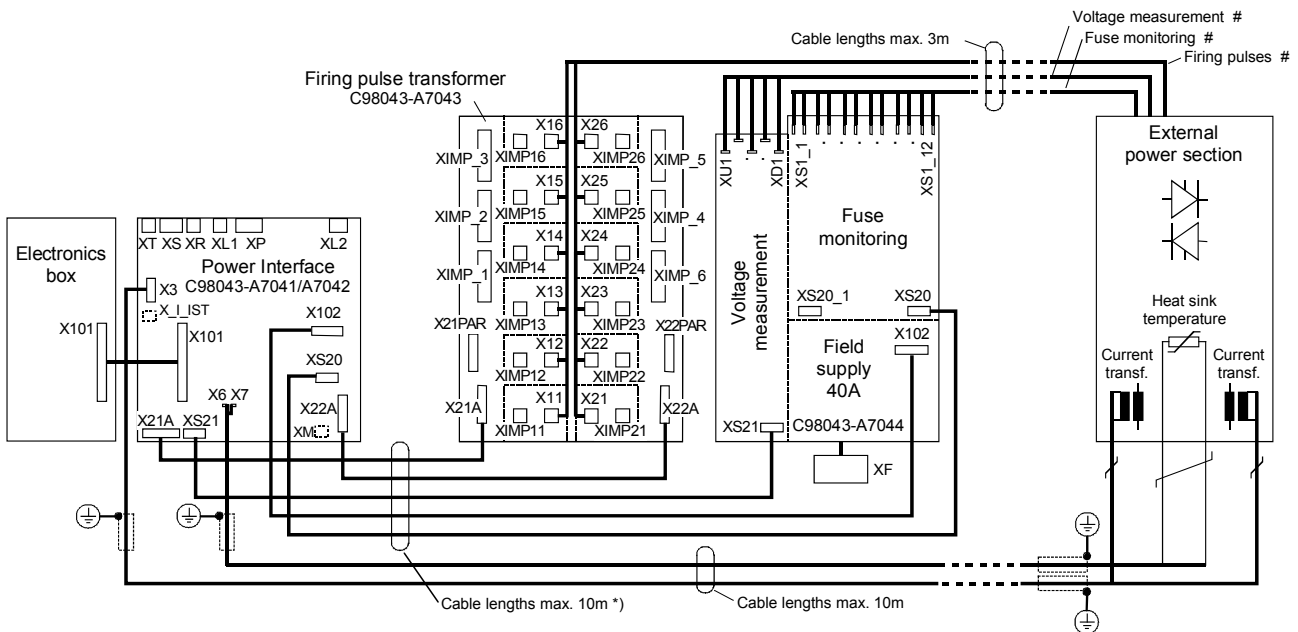

Fig. 6.4.1
1. Rear and front troughs mounted one on top of the other or separately, modules C98043-A7043 and C98043-A7044 not separated (Fig. 6.4.1)